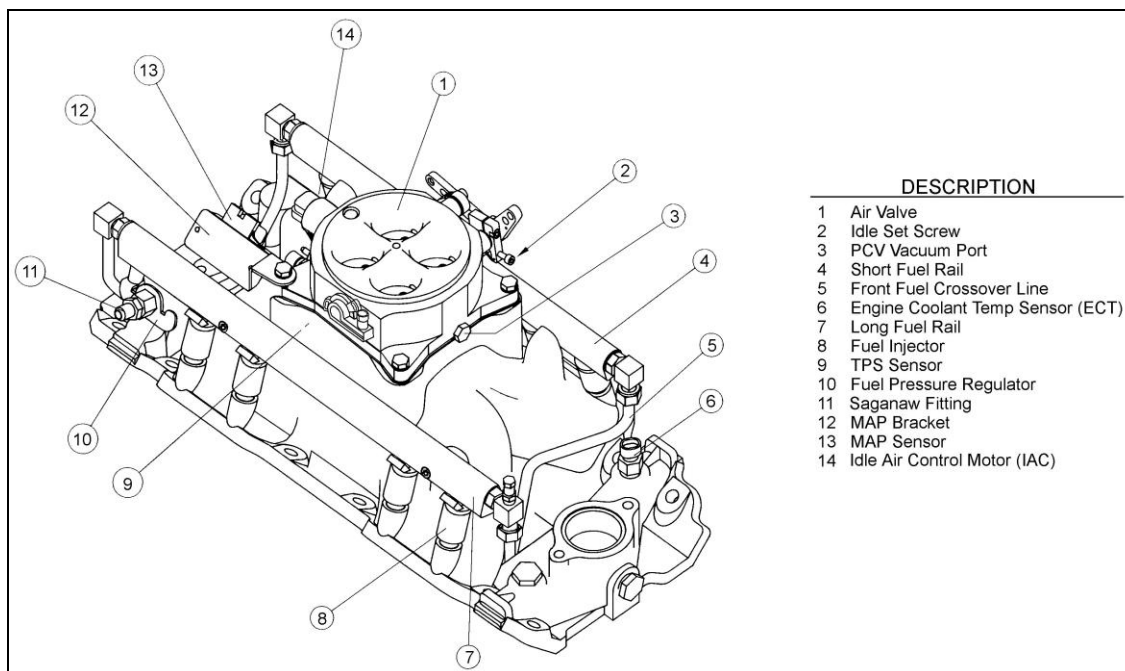

Figure 1
14. Next install the throttle body. The throttle body is in a separate box in the kit, which contains the gaskets needed. First install the gasket that matches the manifold base. Next install the steel plate included with the throttle body. Next install the gasket that matches the plate. Install the throttle body with the 4 5/16-18 bolts and washers included. The MAP sensor bracket is attached by the rear, passenger side bolt. Install the MAP sensor first with the two 10-32 x 1" screws and #10 washers. **See Figure 1.** The throttle cable bracket is attached with the rear driver's side bolt. The bracket in the kit works with most throttle cables and transmission cables.